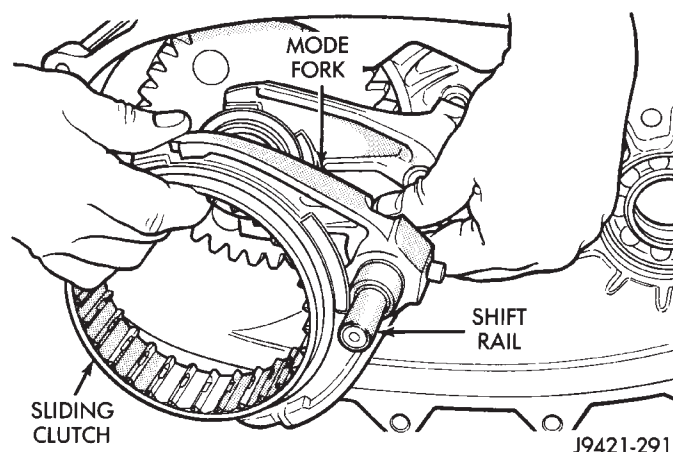

Fig. 27 Mode Fork, Shift Rail And Sliding Clutch Removal
(7) Remove mode fork, sliding clutch and shift rail as assembly (Fig. 27). Note which way clutch fits in fork (long side of clutch goes to front).